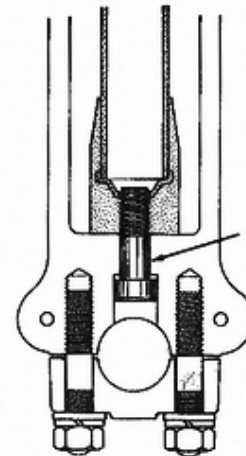

Fig. 8-1-3
- 1) Once the bolt shown in Fig. 8-1-3 has been removed, tighten it under the condition that the front fork is completely bottomed without installing the spring, otherwise the wrong positioning of the inner part may cause an abnormal noise when operating due to collision with the end of inner tube.